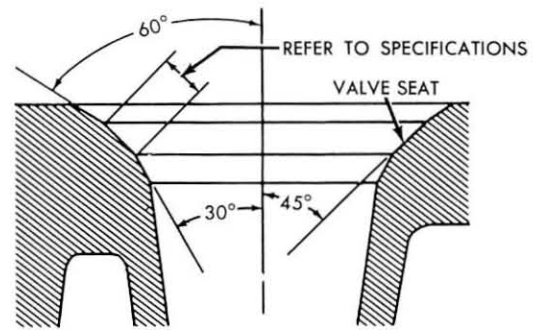

Fig. 23—Valve Seat Width
(3) **REFACING VALVE SEATS.** Grind the valve seat with a grinder (fig. 22). Remove only enough stock to clean up pits or grooves in the seat. If the valve seat width exceeds specifications (figs. 23 or 24), remove just enough stock from the top and bottom edge of the seat to reduce the width. Use a 30° angle wheel to remove stock from the bottom of the seat and a 60° angle wheel to remove stock from the top. Keep the seat as near to the center of the valve face as possible.